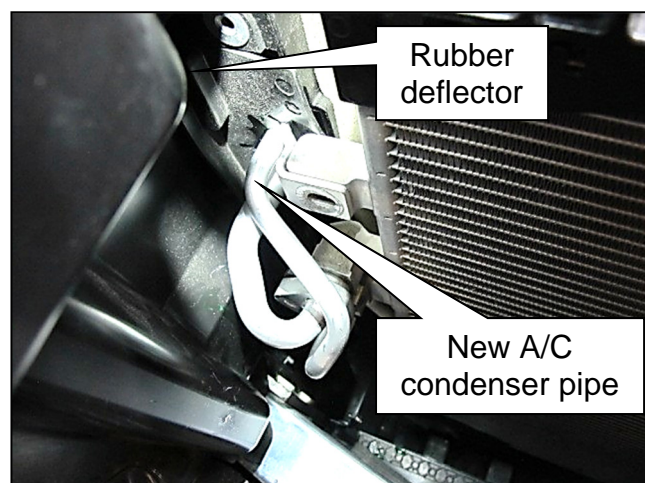

Figure 13
- f. Verify the rubber deflector is seated correctly to the A/C condenser pipe (Figure 13).